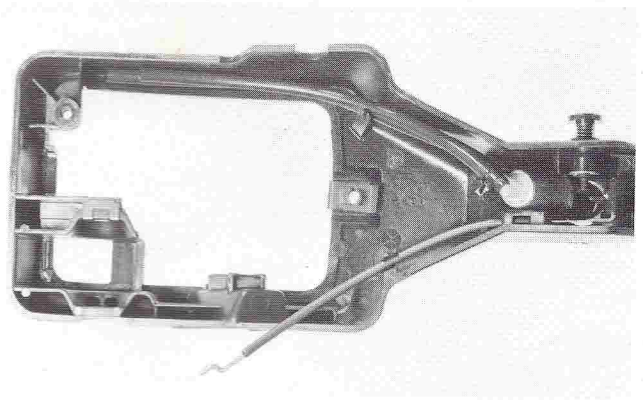

FIGURE 33
3. When installing the handle make sure the oil lines and throttle cable are routed behind the locating posts. See Figure 33.